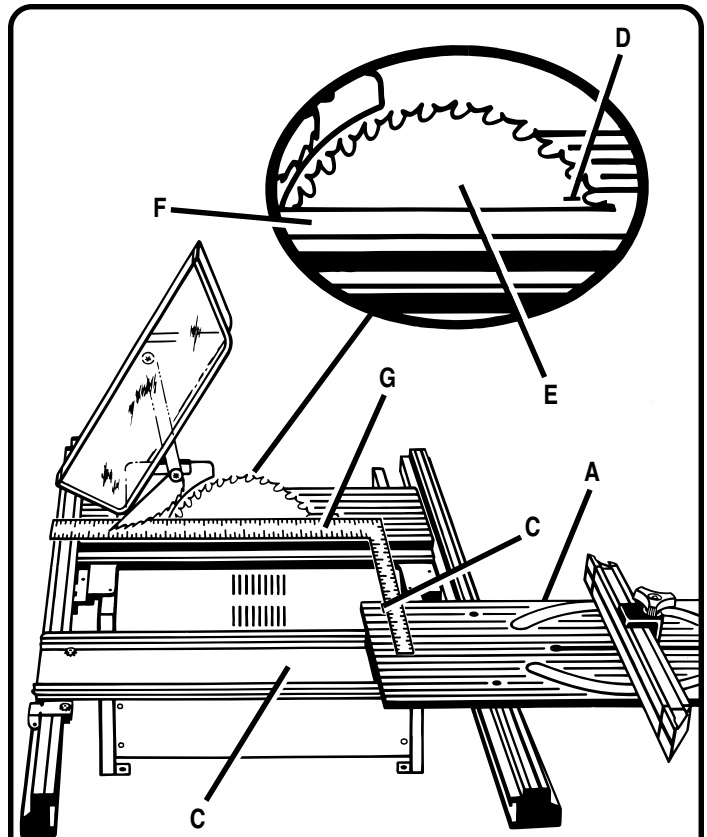
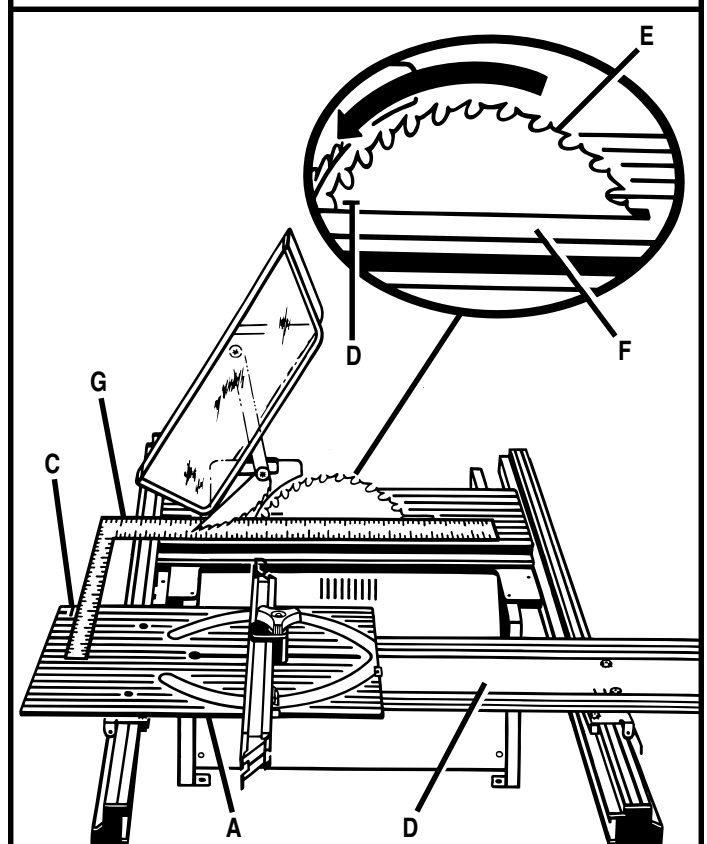

Figure 50: Miter Table Alignment
Figure 51: Miter Table Alignment
2. Slide miter table (A) to the front of miter base (B) as far as it will go. Place a reference mark (C) near the end of the miter table as shown in figure 50.
3. Place a reference mark on one of the blade teeth (D) and rotate the blade (E) so that the reference mark on the blade is at the front of the throat plate (F).
4. Place a framing square (G) against the blade and align with reference mark on miter table. Measure the distance between the blade and the edge of miter table.
5. Remove framing square and slide miter table to the rear of miter base as far as it will go. *See Figure 51.*